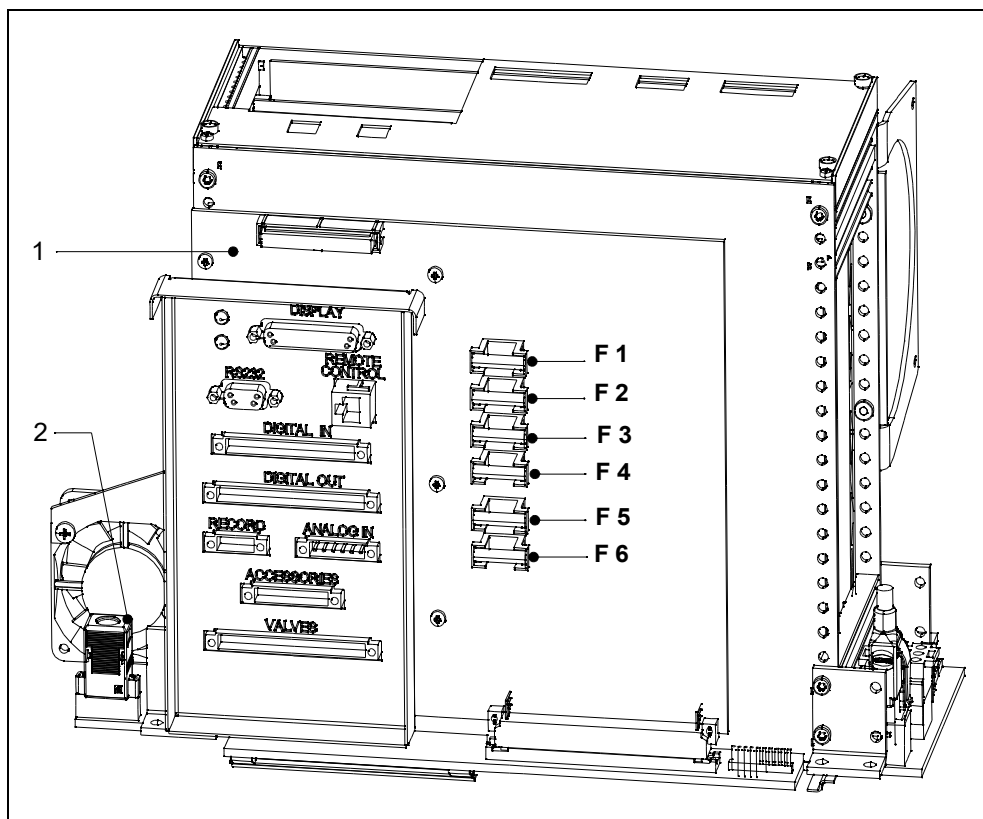

Fig. 7-6 Interface board fuses (SSK)
- After removing the device hood, the fuse is accessible on the interface board. See Fig. 7-6 for more information.